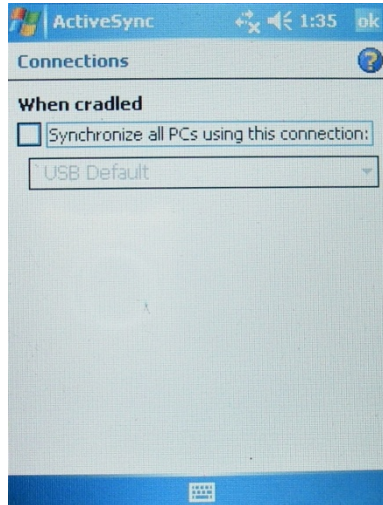

Figure 3: Disable ActiveSync by de-selecting the “Synchronize all PCs...” box.
- 6.2.2.2 To disable this feature open ActiveSync on the PDA and select “Menu” on the blue bar at the bottom of the screen. Open the “Connections” menu option. In the Connections window be sure that the box labeled: “Synchronize all PC’s using this connection:” is NOT checked. See Figure 3.